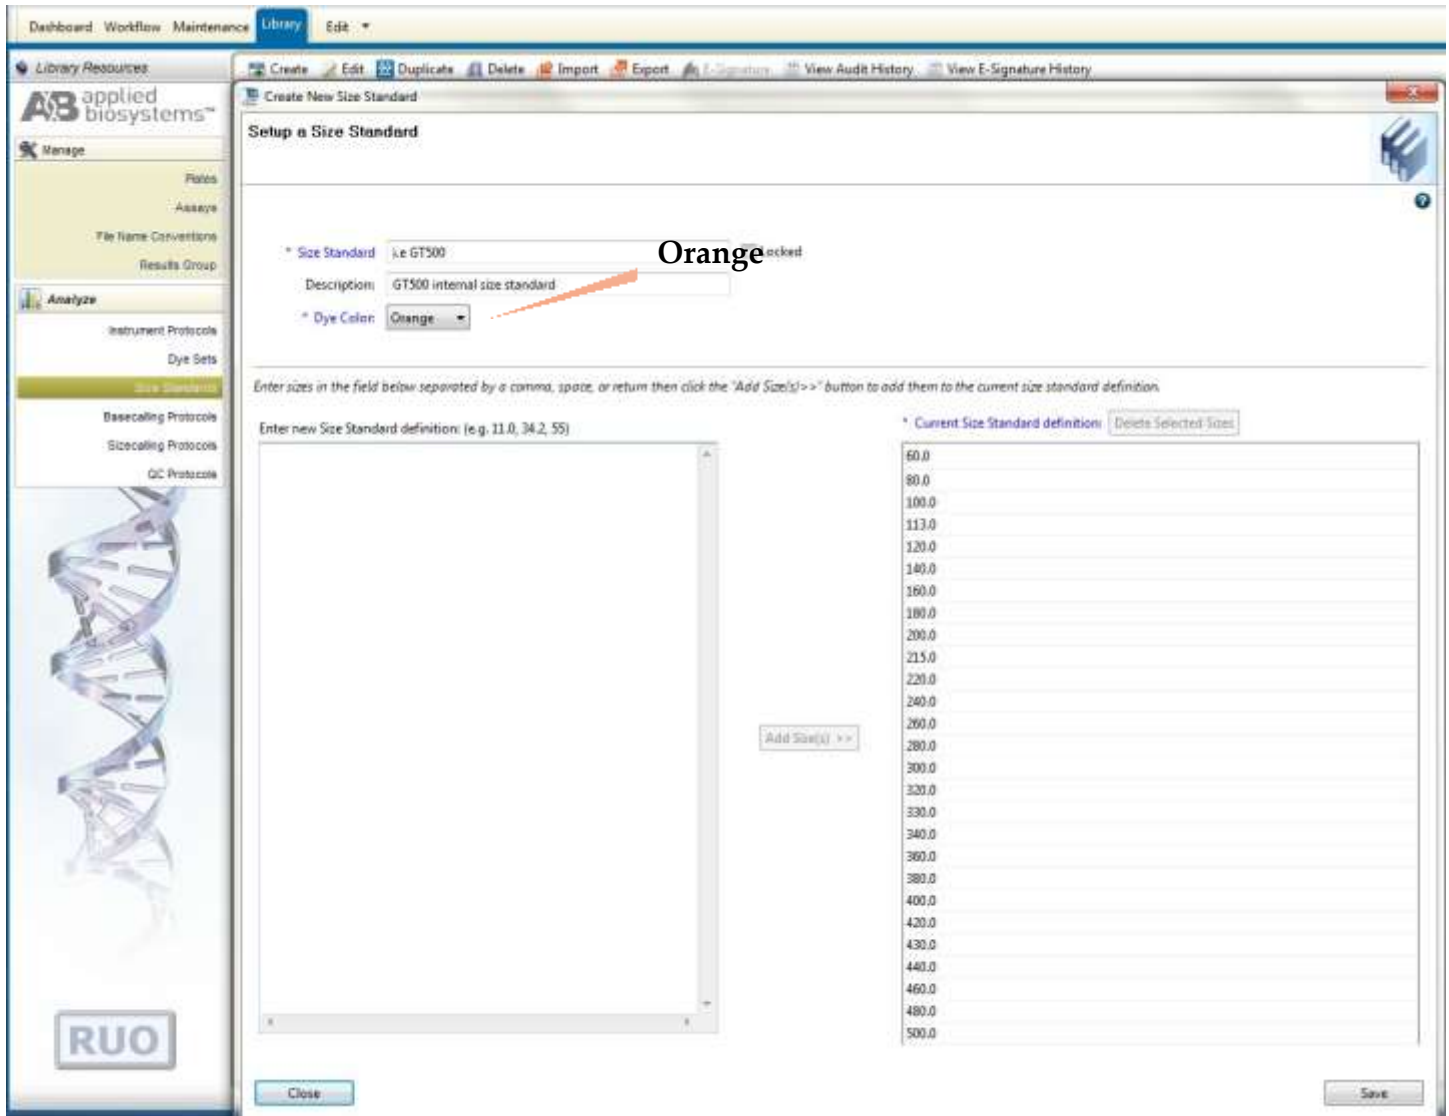

Figure 5. Screenshot for the “Create New Size Standard” window on Applied Biosystems® 3500 Data Collection software
- c) Select “Create” (Figure 5)